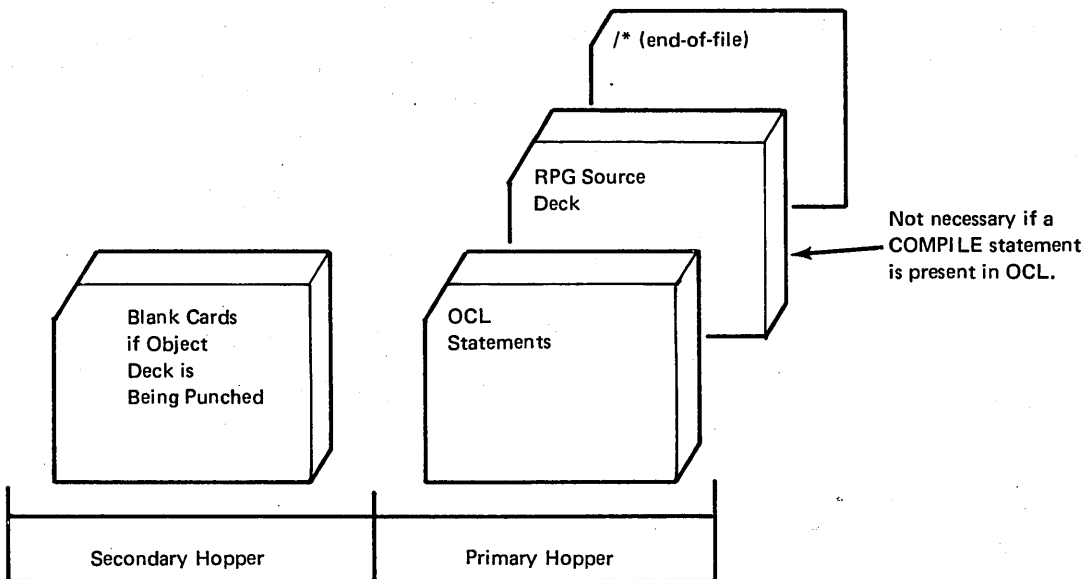

Figure 23. RPG II Input
3. Place OCL statements source program deck in the primary hopper (see Figures 23 and 24). Load cards facedown, top edge to the left. A source program deck may not be given to you if a // COMPILE statement is supplied in the OCL for the program. The COMPILE statement tells the system where the